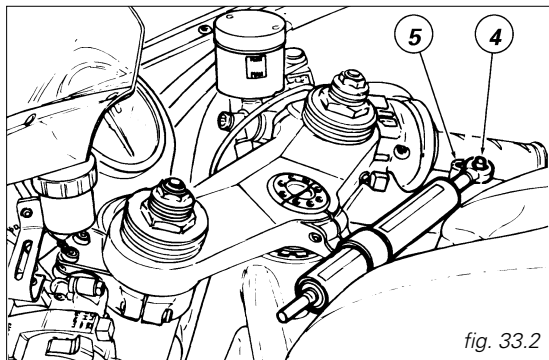

fig. 33.2
When finished, the steering damper must be repositioned. Undo the screw (4, fig. 33.2). Move the damper rod joint to the frame hole (5). Tighten the screw (4) previously removed.